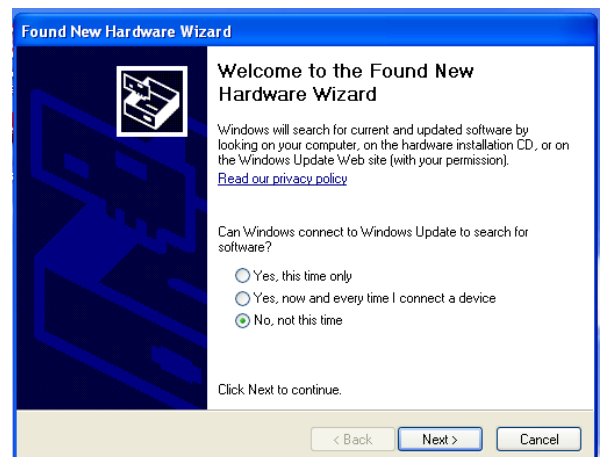

Figure 20. USB Driver
1. Plug in the ADP5501 evaluation board to the computer using the provided USB cable. Once the system recognizes the board, the welcome box (shown in Figure 20) appears.